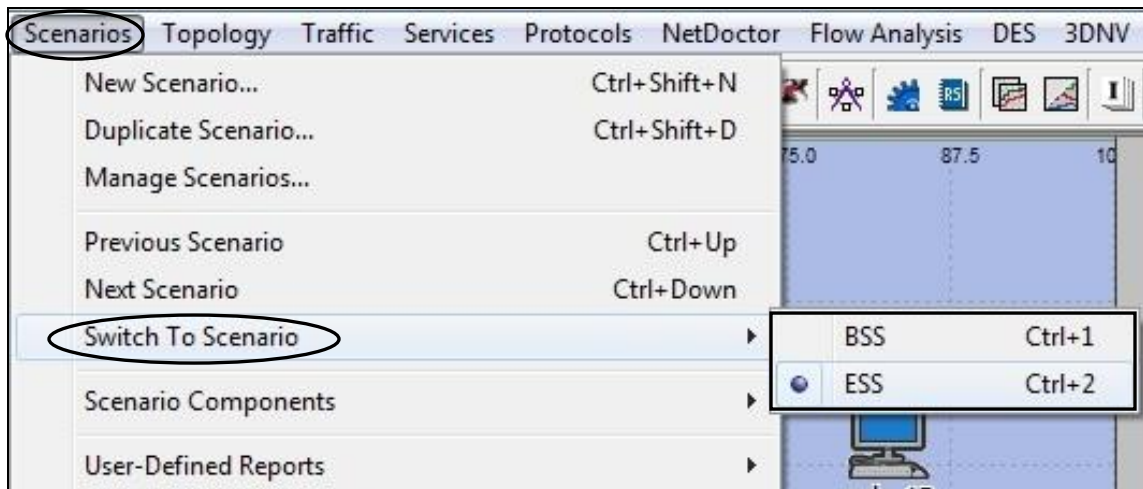

Figure 12 : Switch to scenarios
- To switch between scenarios one and two, click on the **switch to scenario** option in **scenarios menu** as shown in figure 12.